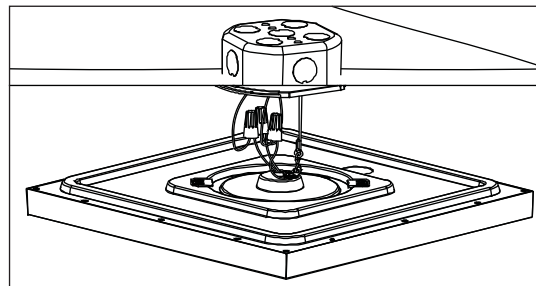
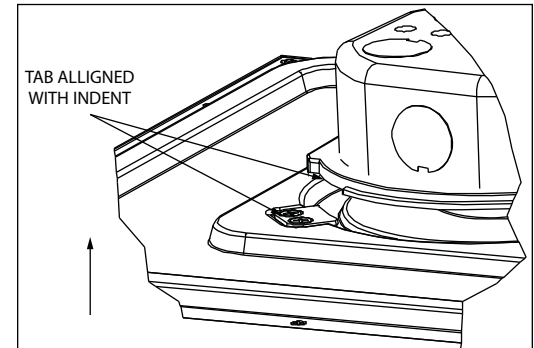

Figure 4
Figure 5
4. **With the power turned off**, hold the Fixture Assembly (6) firmly and connect the green ground wire from the fixture to the bare copper ground wire from the junction box using a Wirenut (3). (If house wiring does not include a ground wire, consult your local electrical code for approved grounding methods). See Fig. 4.
5. Use Wirenuts (3) to connect black fixture wire to the black power supply wire and white fixture wire to the white power supply wire. See Fig. 4.
6. **For Fixture with 0-10V dimming (120 - 277V driver only)**, use Wirenuts (3) to connect violet dimmer wire from fixture (+) to positive (+) wire from dimmer and gray dimmer wire (-) from fixture to negative (-) wire from dimmer. See dimmer electrical schematic for more info.
7. Attach provided sticker on side of ceiling near indents (opening) of the Mounting Bracket (4) and align mounting tabs on back of the fixture with openings in the Mounting Bracket (4). See Fig. 5.